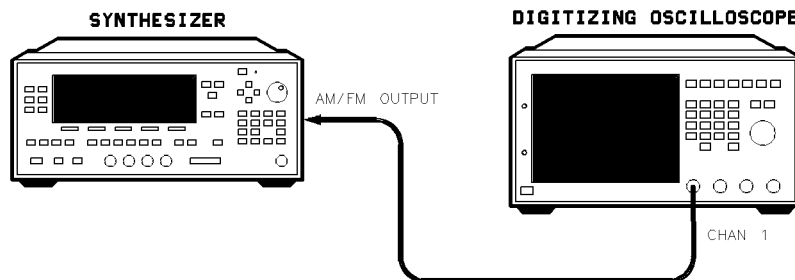

Figure 3-40. Modulation Generator Flatness Adjustment Setup
1. Connect the equipment as shown in Figure 3-40. Preset all instruments and let them warm up for at least one hour.